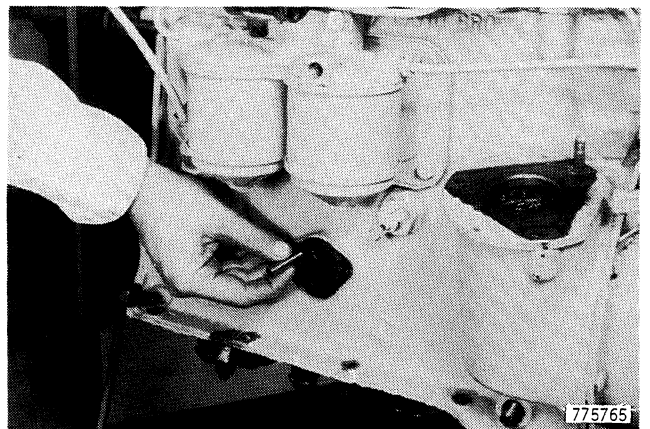

Figure 19
6. Pull the fuel feed pump drive shaft from the engine block, Figure 19.